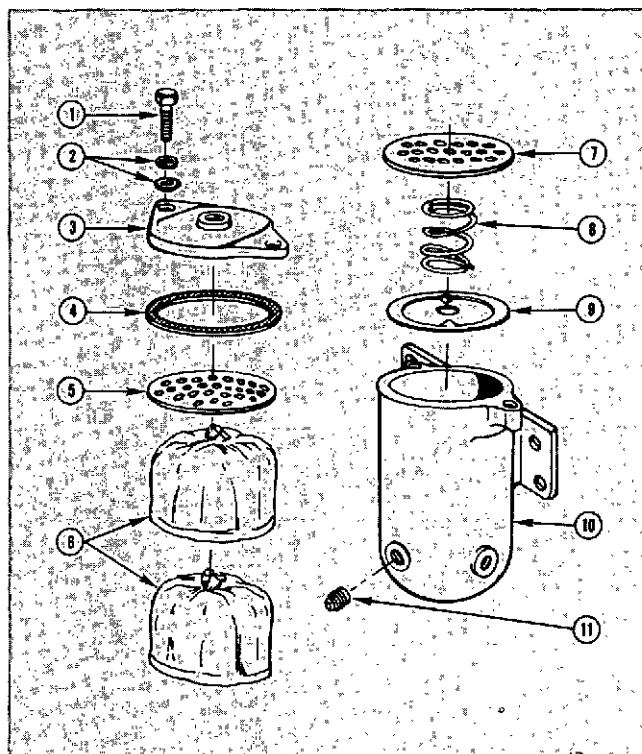

Fig. 8-4-1, V40815. Corrosion Resistor—exploded view
1. Remove capscrews (1, Fig. 8-4-1) and washers (2) from resistor cover (3). Remove cover gasket (4) and upper plate (5), discard gasket.